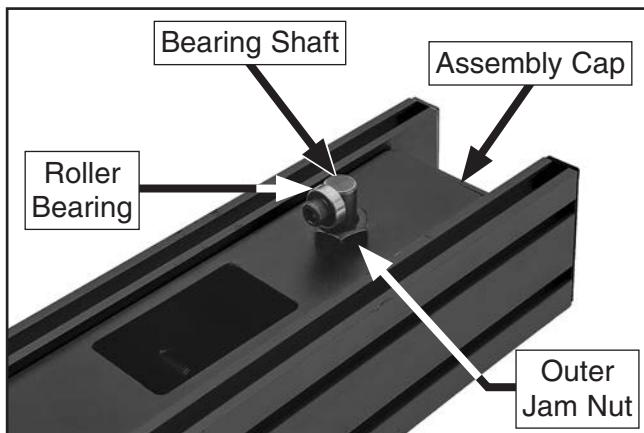

Figure 128. Rear adjustment area for leveling fence.
- Remove fence assembly cap shown in **Figure 128**, then loosen inner and outer jam nuts that secure bearing shaft.